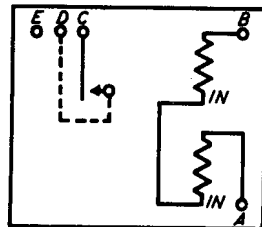

FIG. 6 - WINDING AND SPRING TERMINAL ARRANGEMENT AS VIEWED FROM THE FRONT (CONTACT SIDE) - 21 TYPE TELEGRAPH RELAY
2.07 As viewed from the front of the relay, the terminals are numbered as shown in Fig. 6.